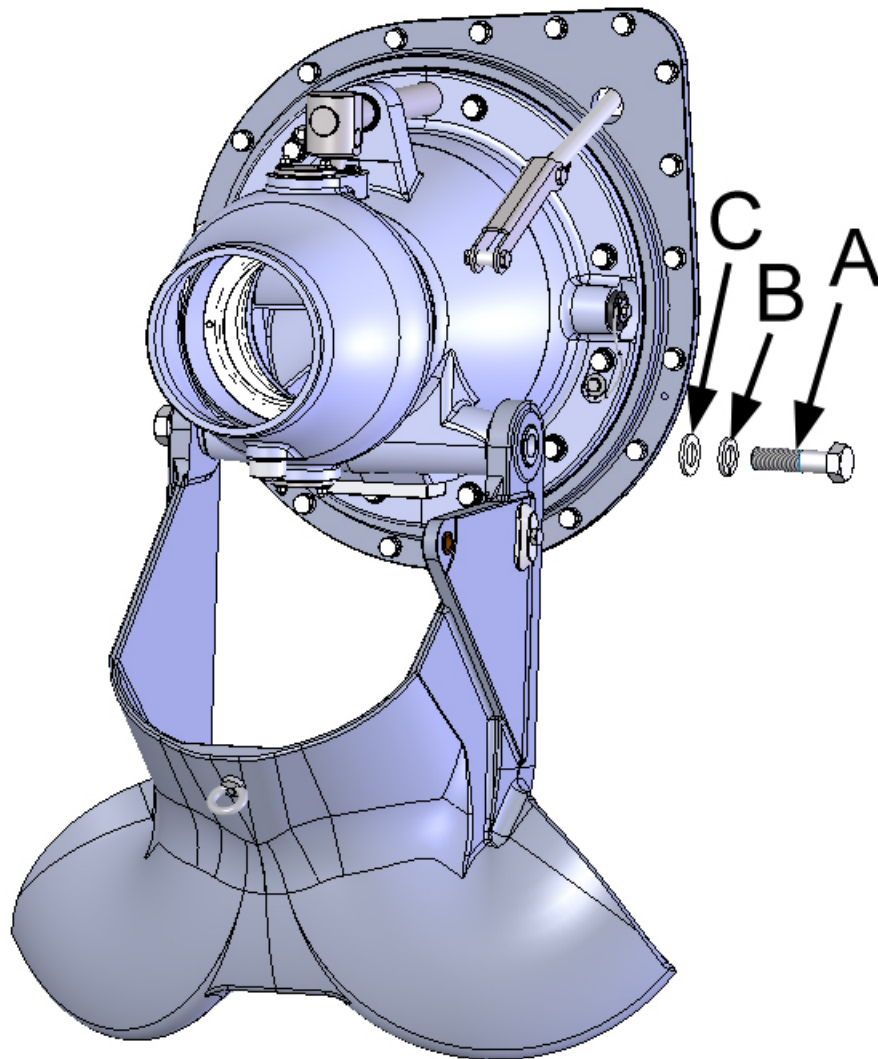

Figure 35. Installing the pivot bolts
2. Set a spring washer (figure 35, point B) and a washer (figure 35, point C) to the ends of the bolts (2 pcs, figure 35, point A) and push the bolts through the holes on the reversing deflector (figure 35).